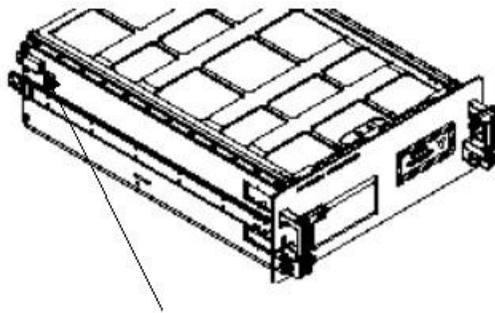

Figure 2. Example of Safety Latch Location.
3.2 Locate the safety latch on the back left side of HRF GASMAP and push latch up. Refer to Figure 2.